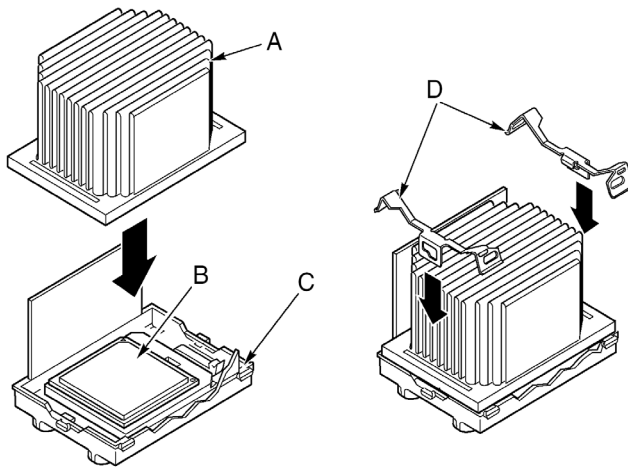

Figure 30 - Installing the heatsink
- 6 Insert the heat sink (Figure 30, A) into the air baffle and place it on top of the processor.
- 7 Install both heat sink retention clips (Figure 30, D) as follows:
- b Snap one end of the clip down over the corresponding tab on the retention module (Figure 30, C).